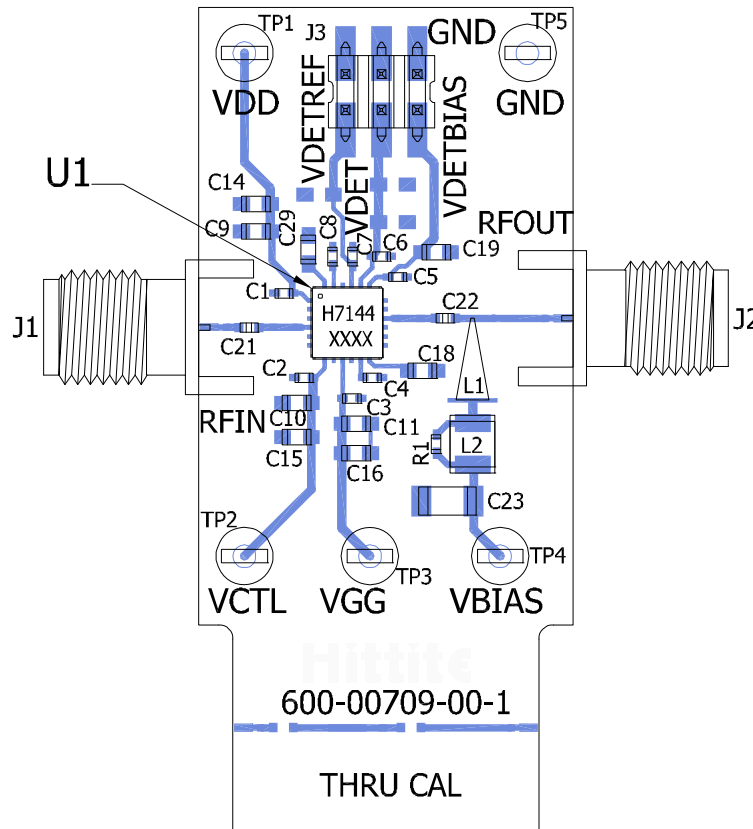

Figure 26. EVAL01-HMC7144LC4 Evaluation PCB
The board in this application uses radio frequency (RF) circuit board design techniques. Provide 50 Ω impedance for the signal lines and connect the package ground leads and exposed pad directly to the ground plane, similar to that shown in Figure 26. Use a sufficient number of via holes to connect the top and bottom ground planes.